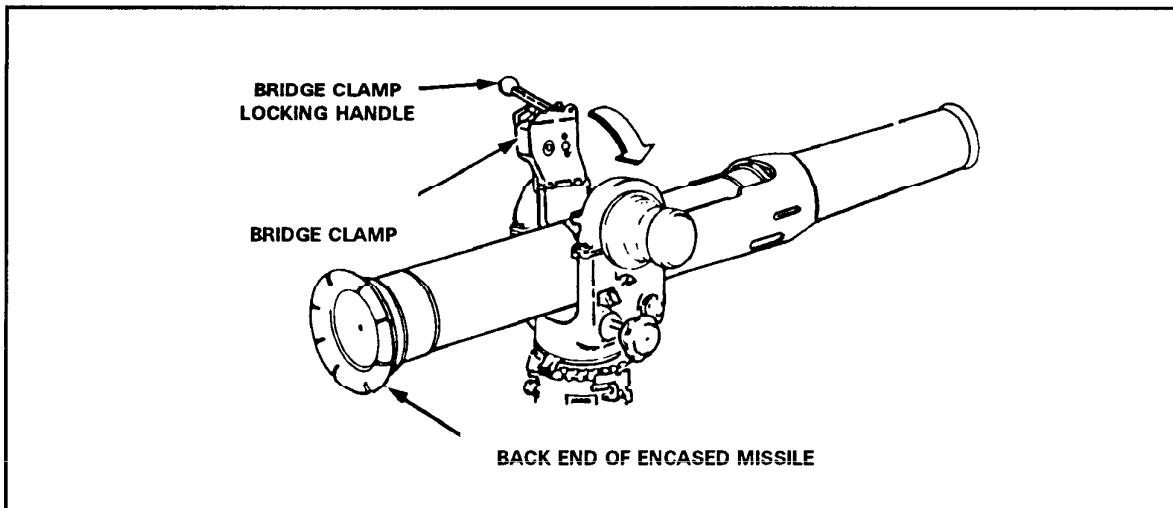
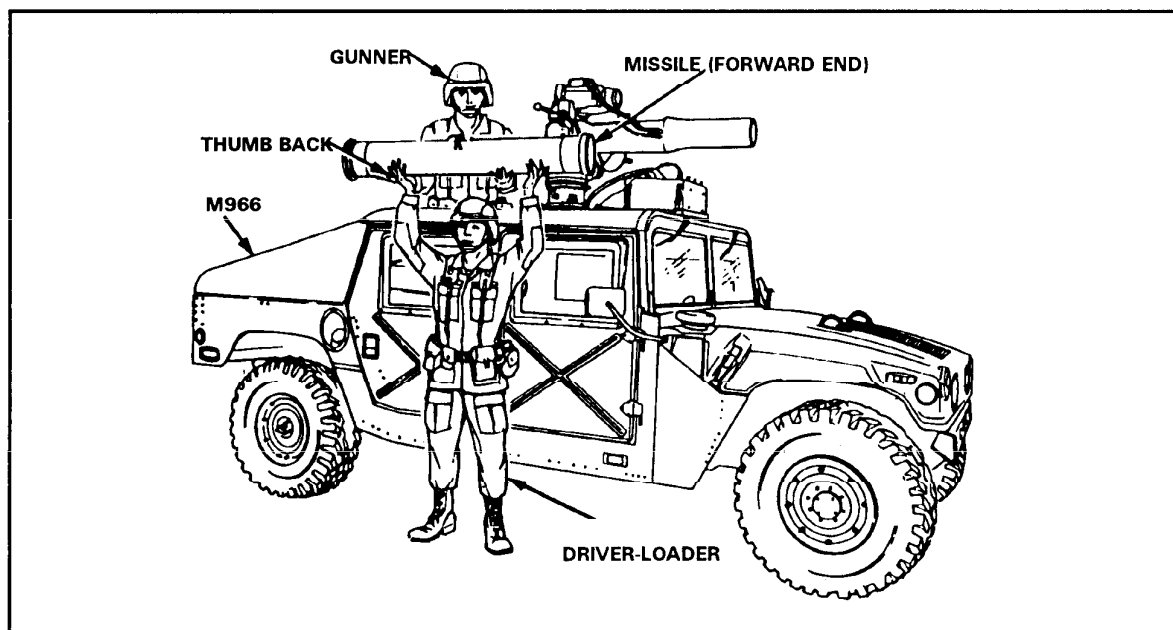

Figure 3-15. Bridge clamp, missile, and launch tube.
Figure 3-16. Driver-loader's position for receiving the missile from the gunner.
(2) He opens the bridge clamp (Figure 3-15), removes the missile from the launch tube (keeping the missile pointed downrange at all times), and hands the missile over either side of the vehicle to the driver-loader (Figure 3-16).